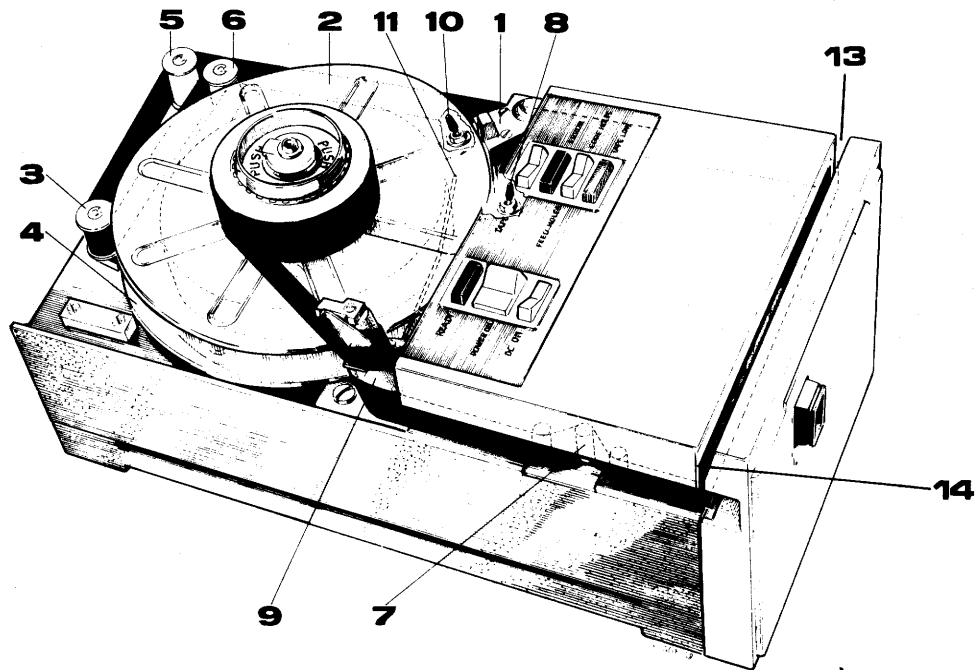

Fig. 2. Tape Path Diagram
See Figure 2.
4. Mount and lock the take-up spool holder over the spindle. Thread the rest of the tape round the climbpin (9) as shown in Figure 2.
5. Check that the two take-up spool drive motor switches (8) and (10) are in the ON and FORWARD positions.